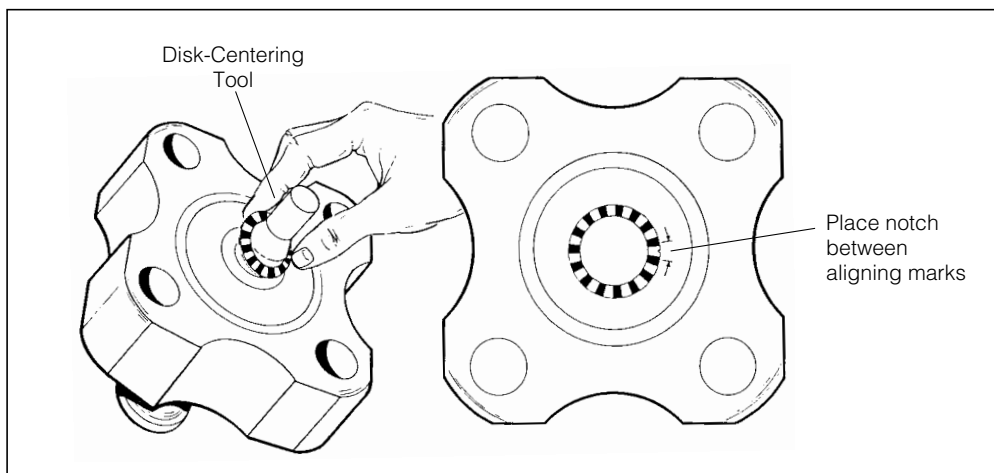

Figure 3-2. Correctly Aligning the Analytical Overspeed Disk on the Rotor
6. Find the aligning marks on the bottom of the rotor (see Figure 3-2). Orient the notch on the overspeed disk between the aligning marks (with adhesive facing down), then slide the disk down the centering tool until it touches the rotor. (The notch must be centered between the marks so that the magnets will be correctly placed between cell holes 1 and 4 on the An-60 Ti, or cell holes 1 and 8 on the An-50 Ti). Be sure not to bend the disk, as you may break the magnets.